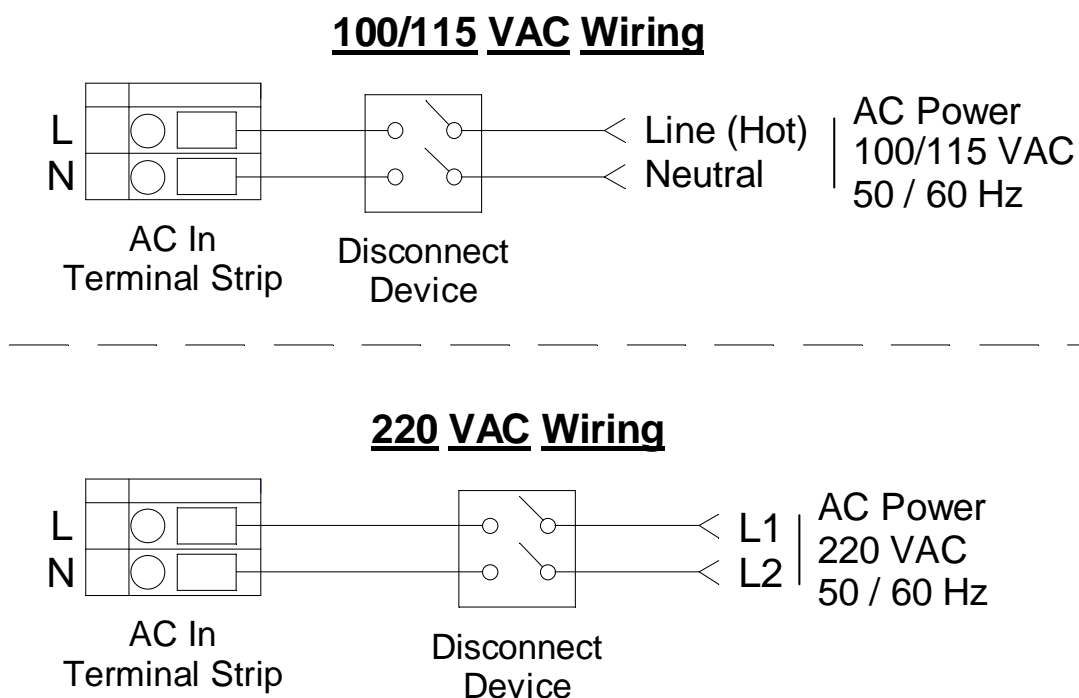

Figure 11: AC Power Wiring
6. Connect the AC wires to the AC in terminal strip as shown in Figure 11 below.